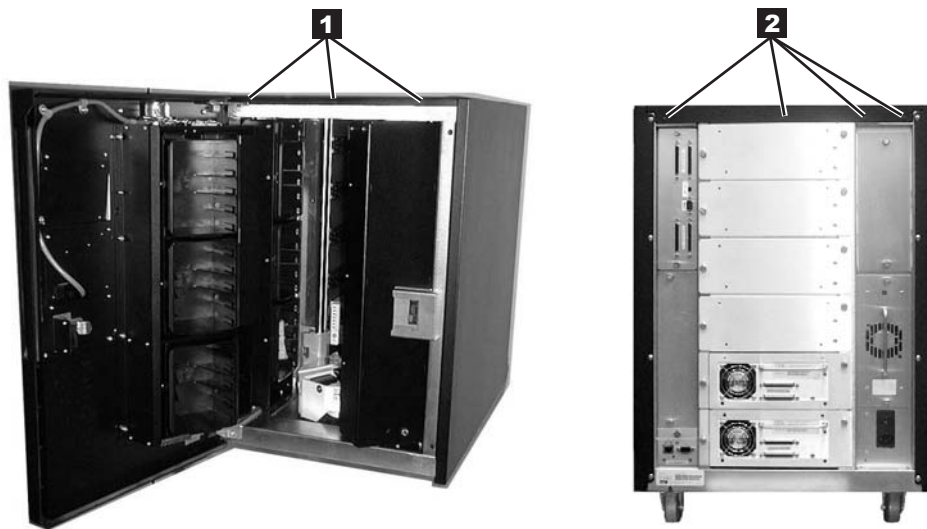

Figure 9-5. Top Cover Removal
3. Remove the three screws **1** in front and four screws **2** in back, see Figure 9-5.